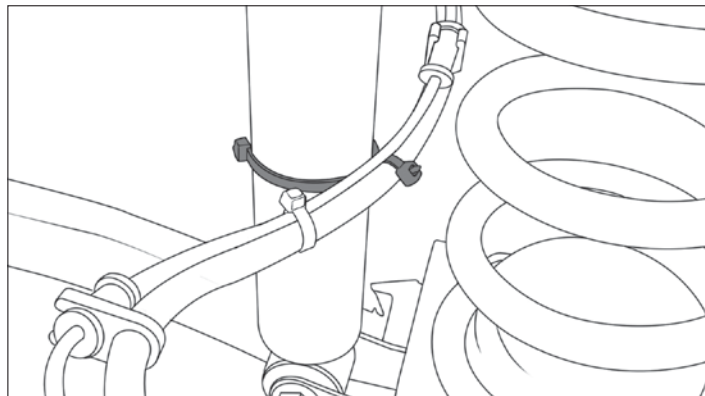

Figure 17
17. For 2011 and newer models, use the supplied zip ties to secure the brake lines to the shocks as shown (fig. 17).